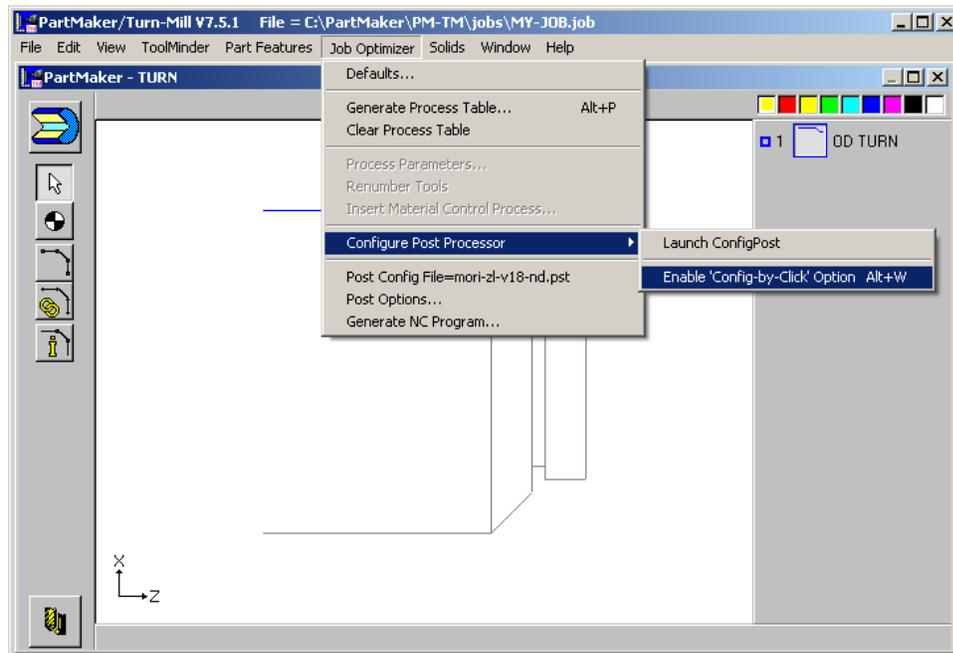

Figure 2: Enabling 'Config-by-Click'[®] from the Menu bar
- b From Job Optimizer, select Configure Post Processor and choose the Enable 'Config-by-Click'[®] Option as shown in Figure 2.